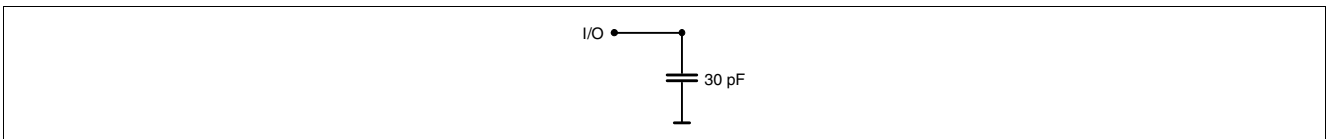

Figure 47 Test Load for DQ Pins
- 5) Specified t_{AC} and t_{OH} parameters are measured with a 30 pF capacitive load only as shown in Figure 47.